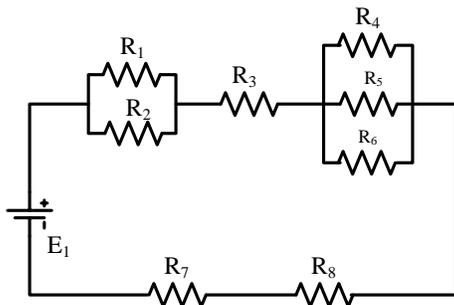

Figure-1
1. Connect the circuit as shown in figure-1.